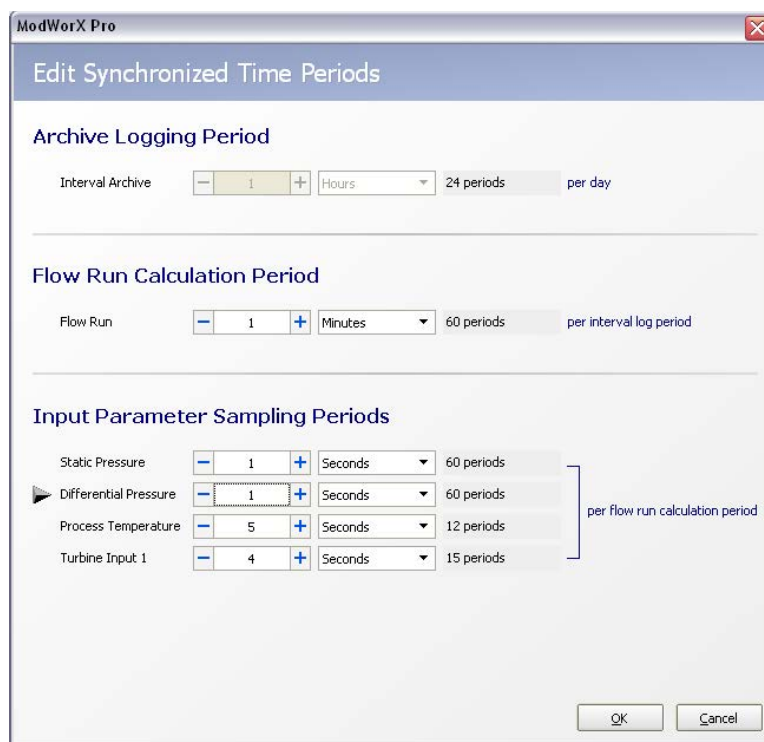

Figure 6.5
- b. Click **Edit**. The Edit Synchronized Time Periods dialog will appear, and an arrow will point to Differential Pressure (Figure 6.5, page 71).